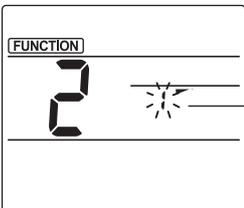

Fig. 3-2
(2) Selecting the vane number (Fig. 3-2)